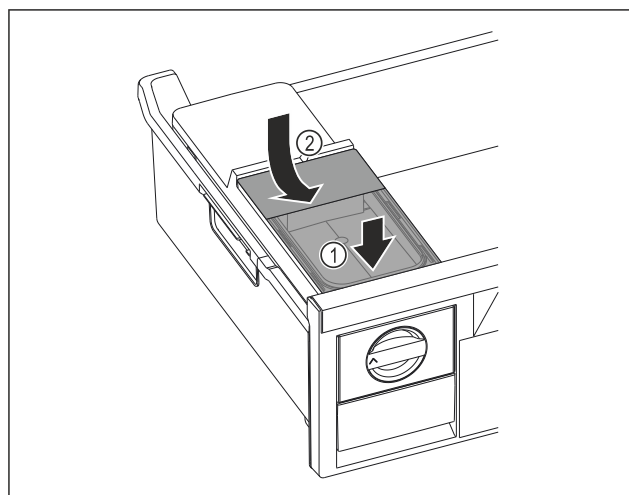

Fig. 72
- Position the water tank at the front. *Fig. 72 (1)*
- Lower the water tank at the rear. *Fig. 72 (2)*